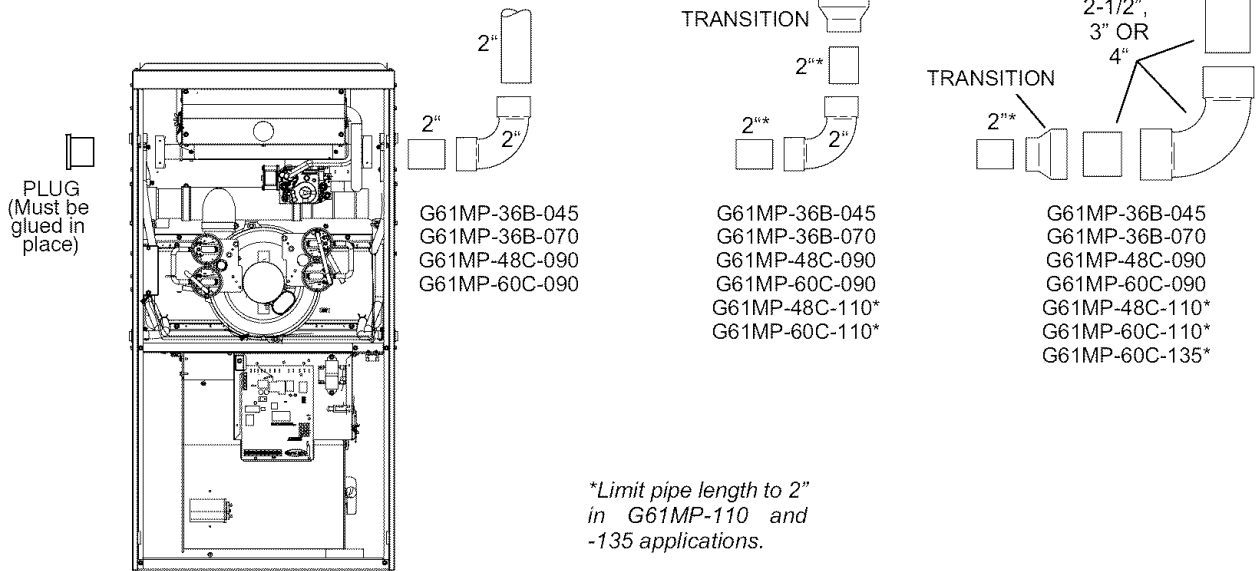

FIGURE 29
- 4 - Route piping to outside of structure. Continue with installation following instructions given in general guide lines for piping terminations and in intake and exhaust piping terminations for direct vent sections. Refer to figure 29 for pipe sizes.